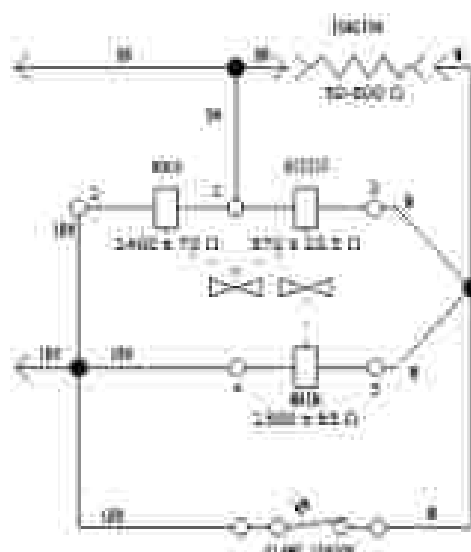

Figure 2 • Gas Valve Schematic
3. Use an ohmmeter to determine if a gas valve coil has malfunctioned. Remove harness plugs. Measure resistance across the terminals (see Figure 2). Readings should match those shown in the following chart. If not, replace coils.